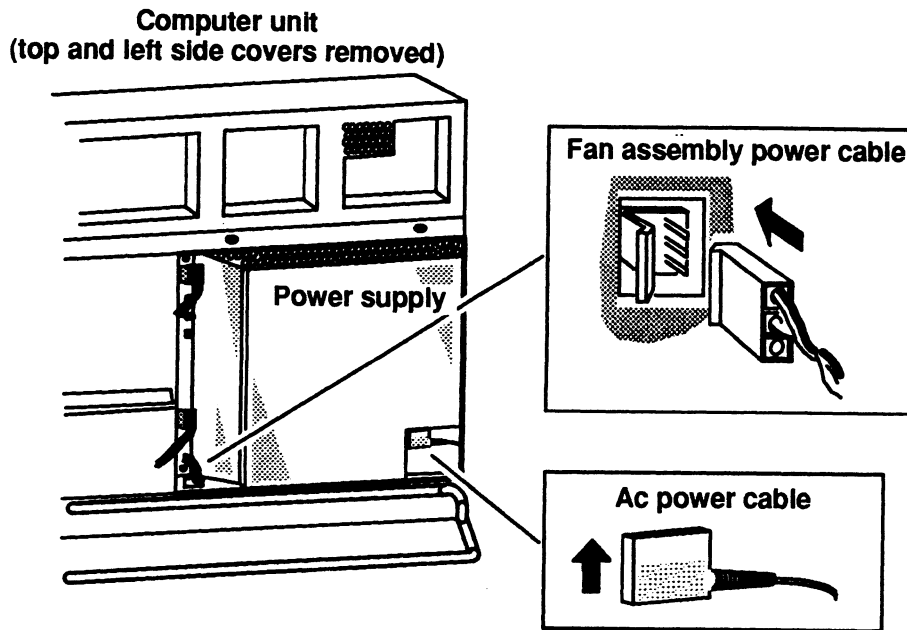

Figure 6–10 *Plugging the Fan Assembly Power and the Ac Power Cables into the Power Supply*
6. Plug the fan assembly power and the ac power cables to the power supply as shown in Figure 6–10.